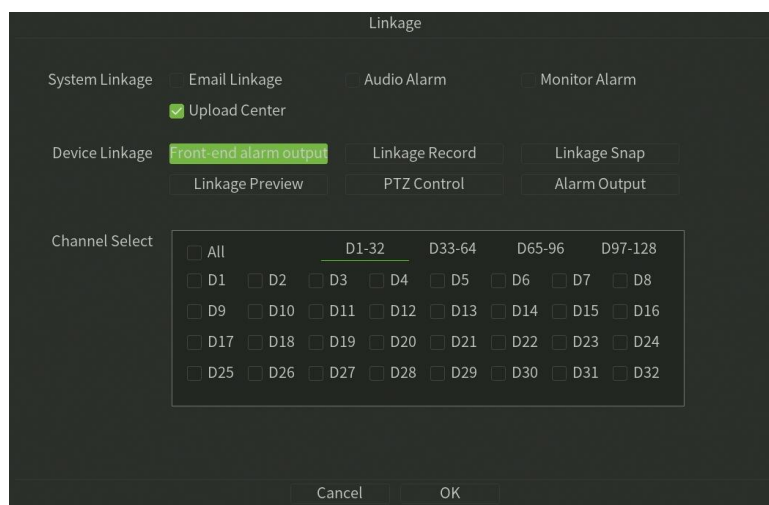

Figure 7.19 Linkage
10. **Linkage:** Click Linkage button, Setup the linkage operation of the function, as shown in figure 7.19.